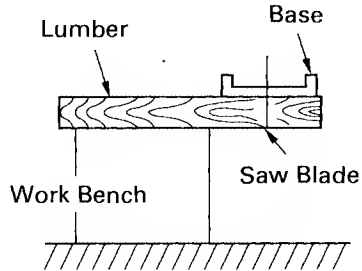

Fig. 6
7. Prepare a wooden work bench (Fig. 6)